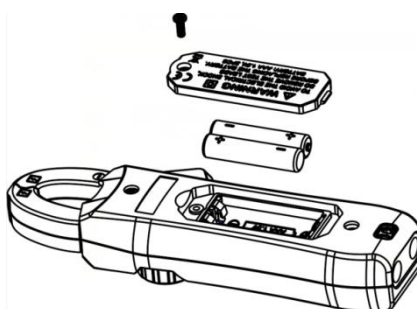

Figure9
2. Replacement of Battery (see Figure 9)